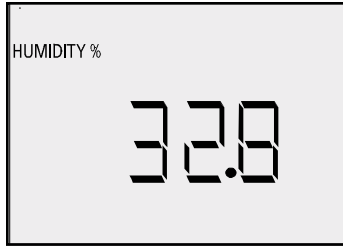

Figure 3
5.2.3 Relative Humidity level in % is displayed. (Fig. 3)